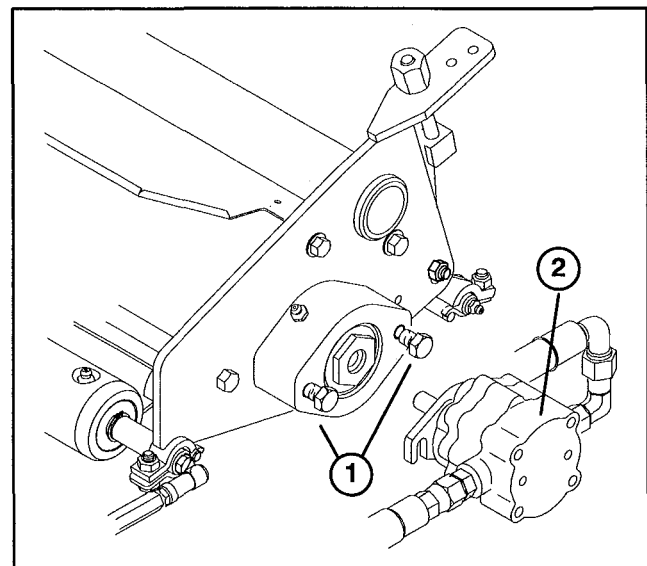

Figure 7
4. Assemble the mounting capscrews and washers for the reel drive motor to each Dethatcher Units. Leave approximately 1/2 in. of threads exposed on each mounting capscrew (Fig. 7).